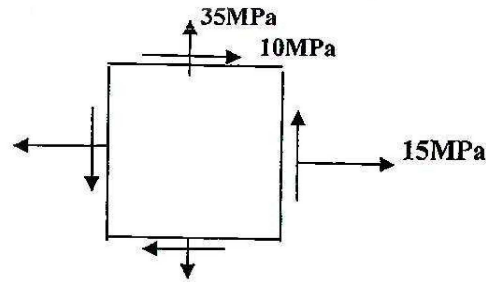

Fig. 12
9. (a) For the element shown in Fig. 12, locate the planes on which magnitude of the shear stress are equal. Show the results on properly oriented elements. Also find principal stress. [8]